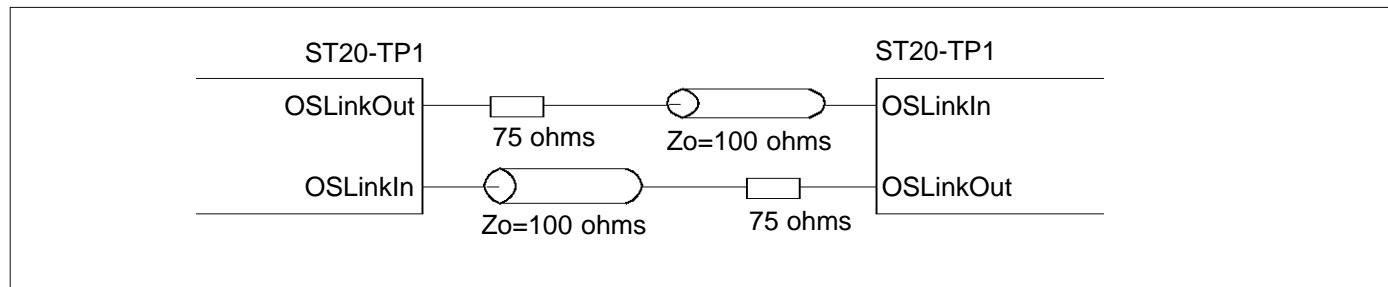
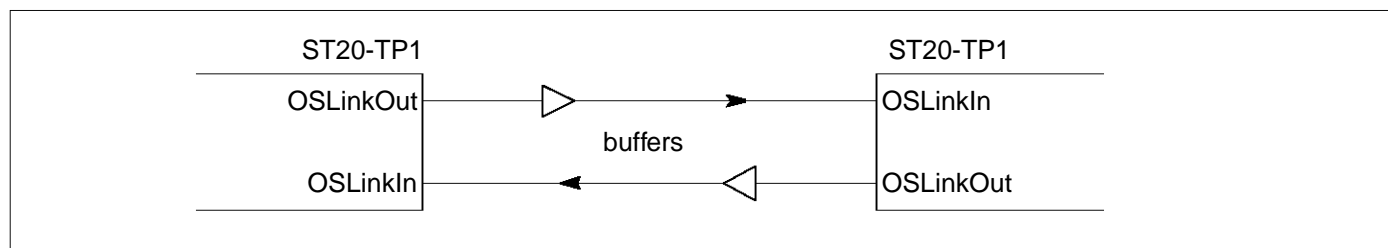

Figure 18.3 OS-Links connected by transmission line
Figure 18.4 OS-Links connected by buffers
Links are TTL compatible and intended to be used in electrically quiet environments, between devices on a single printed circuit board or between two boards via a backplane. Direct connection may be made between devices separated by a distance of less than 300 mm. For longer distances a matched 100 ohm transmission line should be used with series matching resistors (RM), see Figure 18.3. When this is done the line delay is less than 0.4 bit time to ensure that the reflection returns before the next data bit is sent. Buffers may be used for very long transmissions, see Figure 18.4. If so, their overall propagation delay should be stable within the skew tolerance of the link, although the absolute value of the delay is immaterial.
For development support using the standard SGS-THOMSON interfaces the OS-Link should be series terminated as in Figure 18.3.